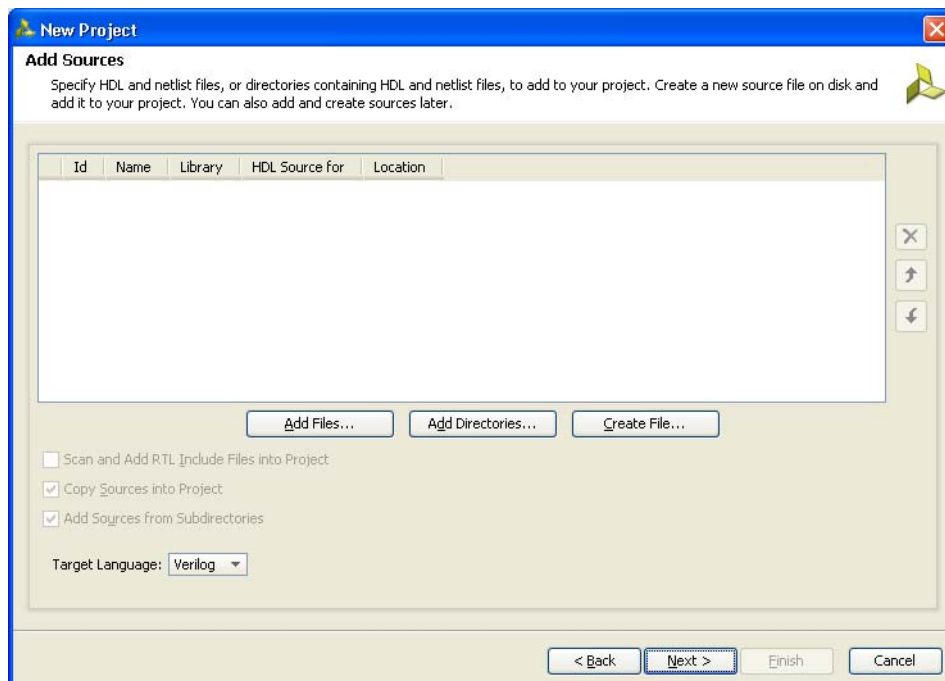

Figure 3-5: Add Sources
- Click **Next** to proceed to the **Add Sources** page (Figure 3-5). RTL files can be added to the project in this page. If the project was not created earlier, proceed to the next page.